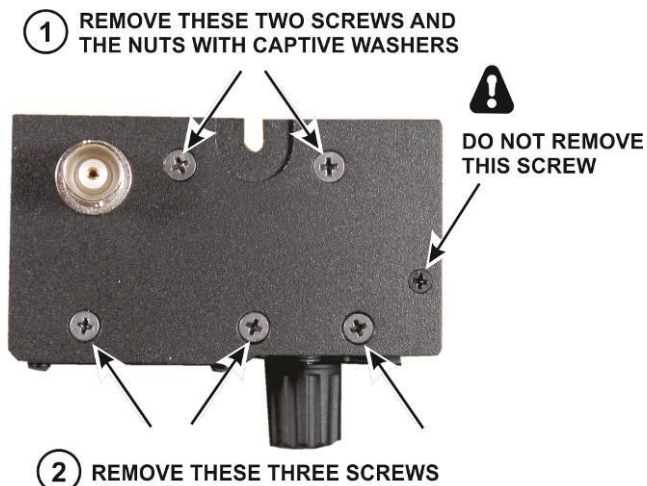

Figure 2. Removing the End Plate Screws.
- Remove the screws from the end plate with the BNC connector as shown in Figure 2.